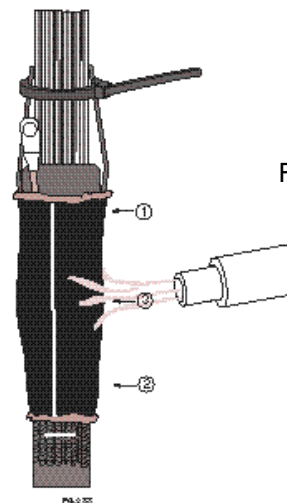

Fig. 25
11. Begin shrinking the tube with the CV1981 hot-air gun on setting 6 around the top of the funnel. After recovering 1" of tube on funnel, pause for 15 seconds to allow the adhesive to set on the funnel before shrinking the bottom of the tube. (See Fig. 25, steps 1,2)
12. Continue heating until the entire tube has shrunk, then apply additional heat to the lump of adhesive in the middle of the tube. When the seal is complete, the tube should be smooth and the adhesive lump should be melted. (See Fig. 25, step 3) After the moisture-block has cooled, remove the tie wraps from the cable.